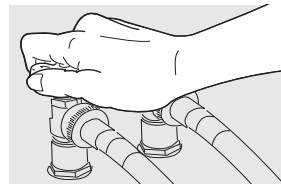

Fig. 7
7. Turn on the water and check for leaks. (Fig. 7).